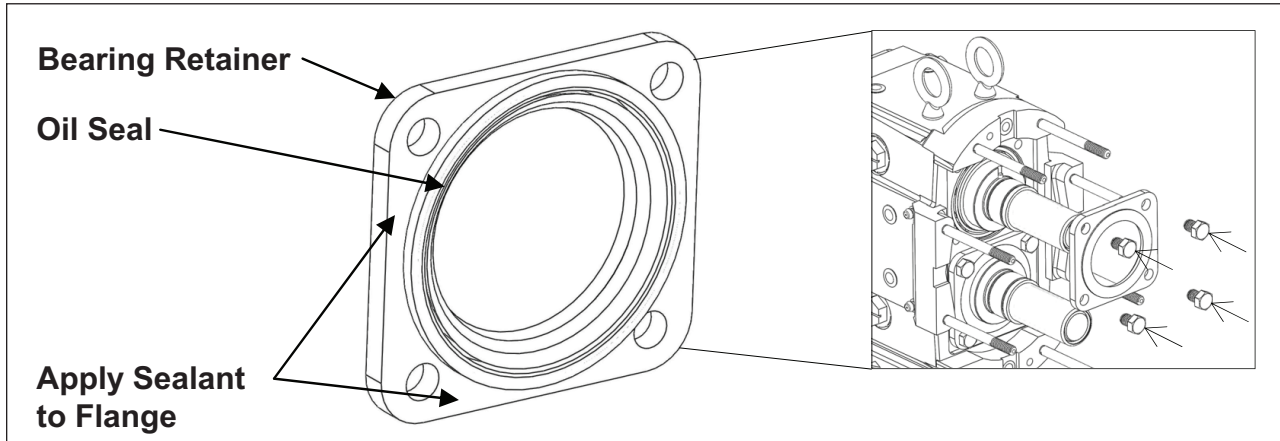

Figure 42. Bearing Retainer Installation
- Once the correct backface clearance is achieved, fill all bearings with grease through the fittings on the mounting pads until grease is noticeable around the bearing assemblies. The shafts should be rotated during this initial greasing to distribute the grease evenly. Apply a light film of lubricant to the inside and outside diameters of the oil seals and install them into the bearing retainers. Apply silicone sealant to the outside flanges on the bearing retainer (*Figure 42*). Once the silicone sealant is applied, install the bearing retainers onto the gear case.